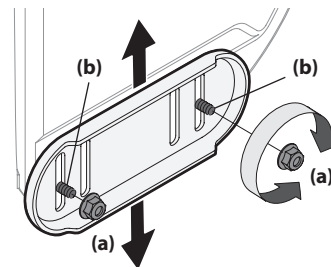

Figure 2-54
1. Loosen four hex nuts (a) (two on each side) and carriage bolts (b). Move skid shoes to desired position. See Figure 2-54.
NOTE: The skid shoes on your unit may look slightly different (and have different hardware) than ones shown in Figure 2-54.